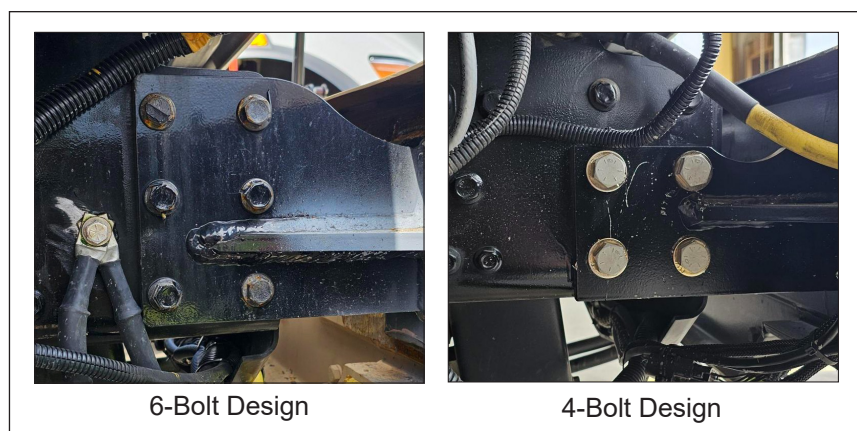

Figure 1 — Mounting Bracket Inspection
3. Inspect the front bumper mounting bracket at the front of the chassis (refer to Figure 1). Determine if the bracket uses a 6-bolt design or a 4-bolt design.